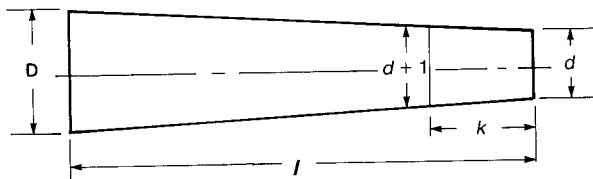

Figure 54-6 Dimensions of a metric taper.
In Fig. 54-6, the large diameter (D) will be equal to the small diameter plus the amount of taper. The amount of taper for the unit length (k) is $(d + 1) - (d)$ or 1 mm. Therefore the amount of taper per millimeter of unit length = $1/k$.